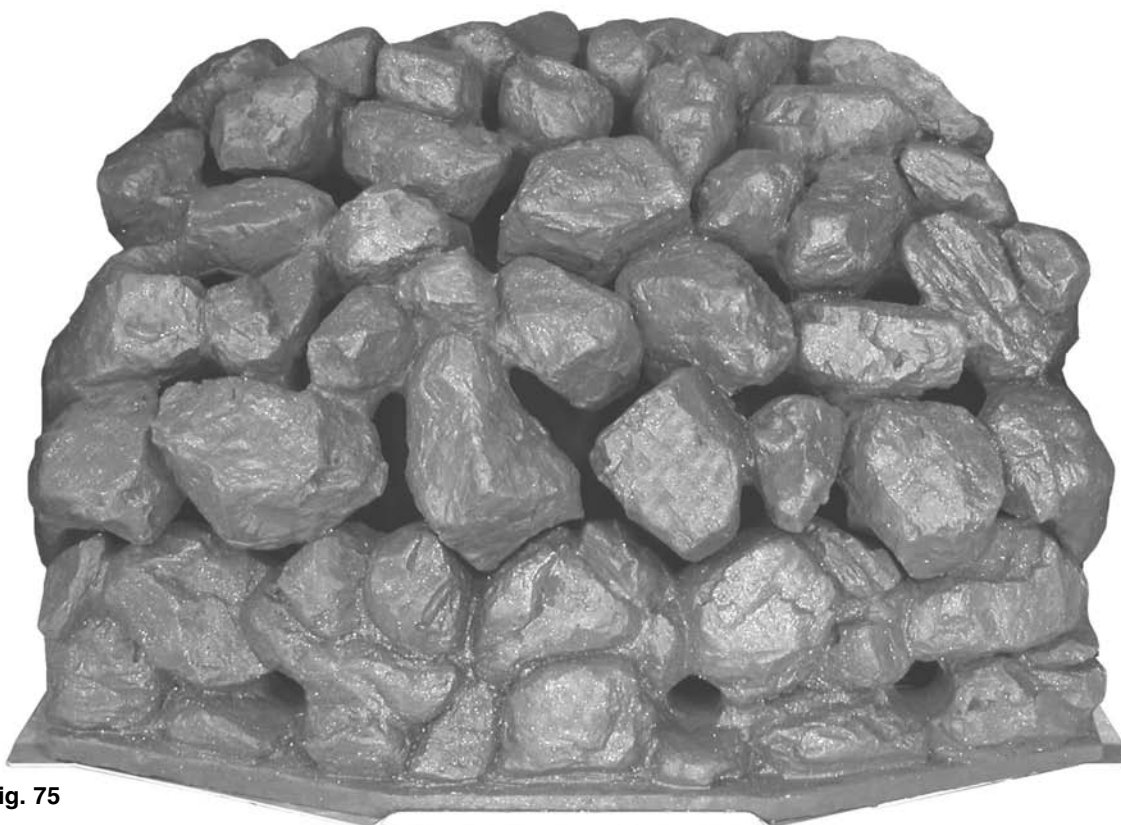

Fig. 75
5. Finally check that all the coal pieces are 'nested' together correctly (Fig. 75).